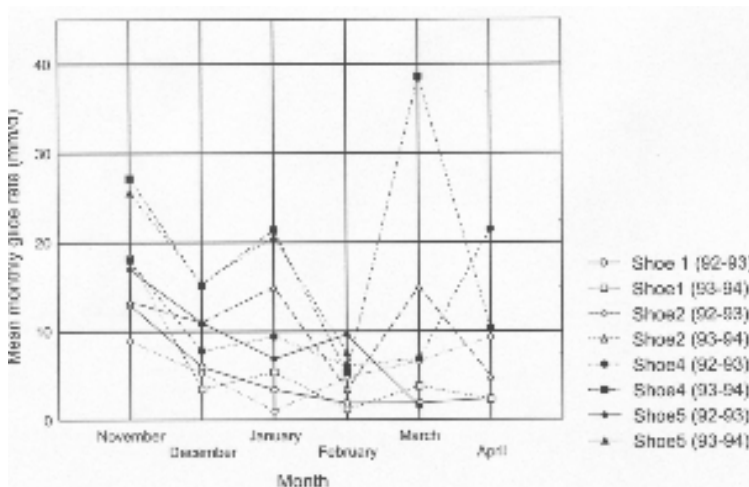

Figure 6. Mean monthly glide rates from Coquihalla Highway, Cascade Mountains, British Columbia (source data from Clarke and McClung, 1999)
Glide rates vary at any particular site throughout the winter season, and from year to year. Lackinger (1987) proposed that glide avalanches might be expected to occur in a season when gliding motion begins early in the season, particularly in seasons with early, heavy snowfall. McClung et al. (1994) noted higher glide rates and glide rate fluctuations in early season and attributed it to: (1) summer heat stored in the rock causing melting at the interface and (2) the early season snow is of low density, has a low shear viscosity and therefore deforms faster at the snow/rock interface. They also noted higher glide rates and fluctuations late in the season, corresponding to spring conditions. At this time of year, higher glide rates can be attributed to significant melting, warmer temperatures and higher likelihood of rain-on-snow events (Clarke and McClung, 1999). Figure 6 shows the mean monthly glide rate for 4 glide avalanche locations over a two-year period. Although there is significant variation, the general trend shows highest glide rates at the beginning of the season (i.e. November and December), lowest glide rates mid-winter (i.e. January to late February), and slightly increasing glide rates toward the end of the season (i.e. March to April). In der Gand and Zupaniè (1966) noted a similar seasonal trend at a number of Swiss sites, with glide rates slowing down in the middle of January, and increasing in the middle of February, with increasing snowpack temperatures. Typical glide velocities are in the range of 1 to 100 mm/day (McClung and Schaerer, 1993), with mean monthly glide rates typically ranging between 5 and 20 mm/day (Figure 6).